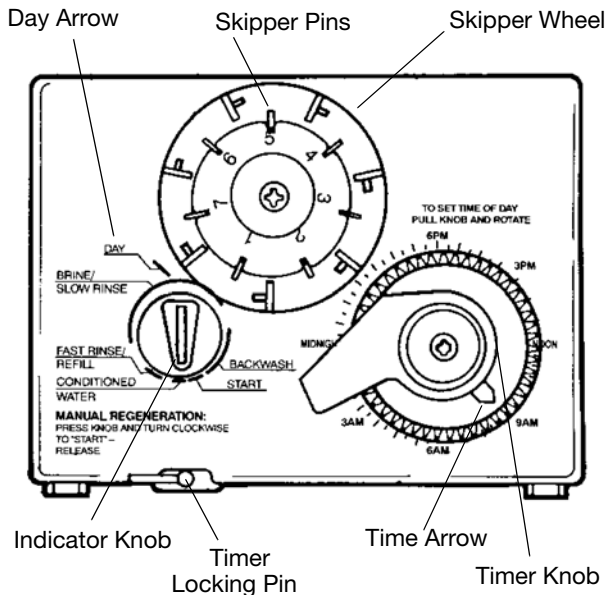
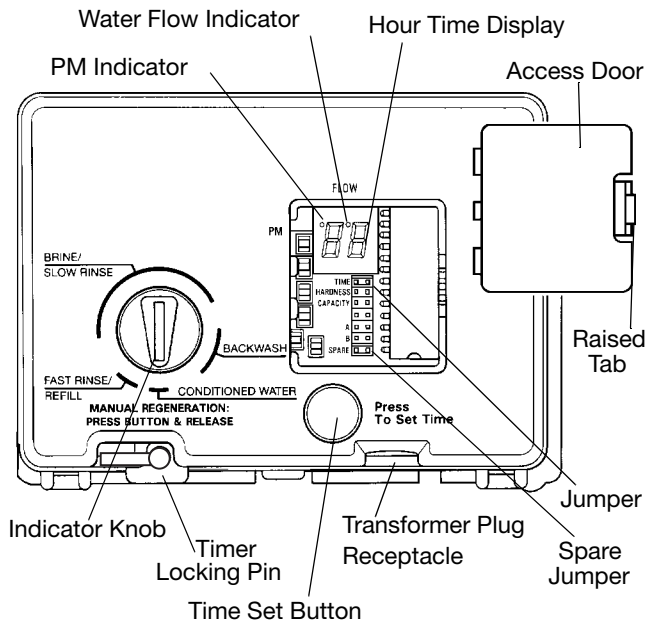

Figure 11
Figure 12
Note: The following steps will require turning the indicator knob (Figure 11) to various positions. Insert a wide-blade screwdriver into arrow slot in indicator knob and press in firmly. With knob held in, rotate
2. Insert screwdriver into slot in indicator knob (Figure 11). Press in and rotate knob **COUNTERCLOCKWISE** until arrow points directly to the word **BACKWASH**.
1. Set days of regeneration on skipper wheel (Figure 11).
Note: The Timer Locking Pin should always be horizontal (Figure 11) during operation.
Open the access door by pushing the raised tab on the door toward the left while pulling the tab out (Figure 12).
Note: The Timer Locking Pin should always be horizontal (Figure 12) during operation.
When abnormally high water usage exhausts your water conditioner’s capacity ahead of schedule, an extra regeneration can be achieved. Depress the indicator knob on the 440i (Figure 11) with a wide-blade screwdriver and turn **COUNTERCLOCKWISE to START** to initiate a regeneration. For the 460i, simply depress the indicator knob (Figure 12). It will take a few minutes for regeneration to start. A normal regeneration will take approximately two hours.